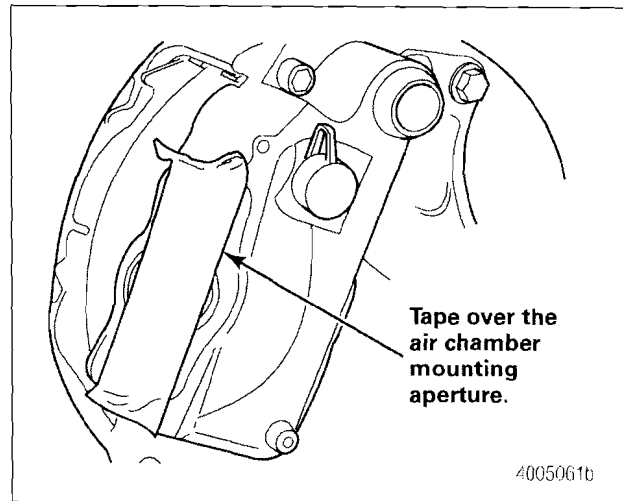

Figure 6
7. Cover the exposed air chamber mounting aperture with tape to prevent debris from entering the caliper housing assembly. Figure 6.